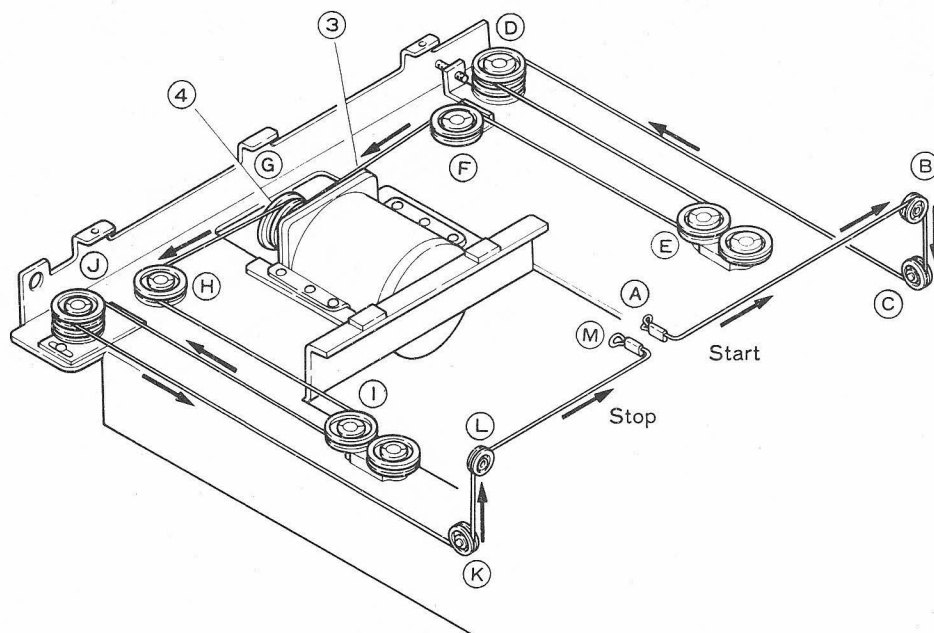

Fig. 11 Y-Axis Wire Stringing
3. Y-Axis Wire Stringing (Figure 11)
- Also set the Y wire assy ③ on the wire hook ① of the carriage frame assy and insert it through the pulleys ②, ③, ④, ⑤, and ⑥.
- Wind the wire on the Y-axis motor pulley assy ④ 5 times.
- Set the wire on the wire hook section ⑦ of the carriage frame assy through the pulleys ⑧, ⑨, ⑩, ⑪, and ⑫.